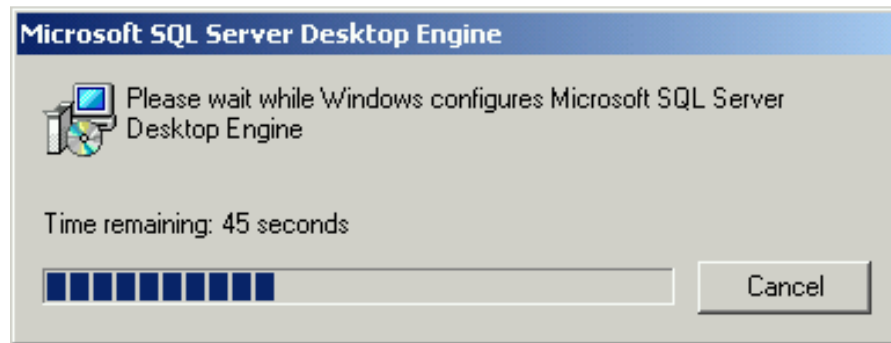

Figure 9: MSDE2000 Install Progress Window
4. After you reboot, the installation program will restart and begin installation of the Microsoft Desktop Engine (MSDE2000). The software will install the installation files into temporary directories on your machine's C drive and then install the software. This process will take a number of minutes to complete (see Figures 9 and 10).